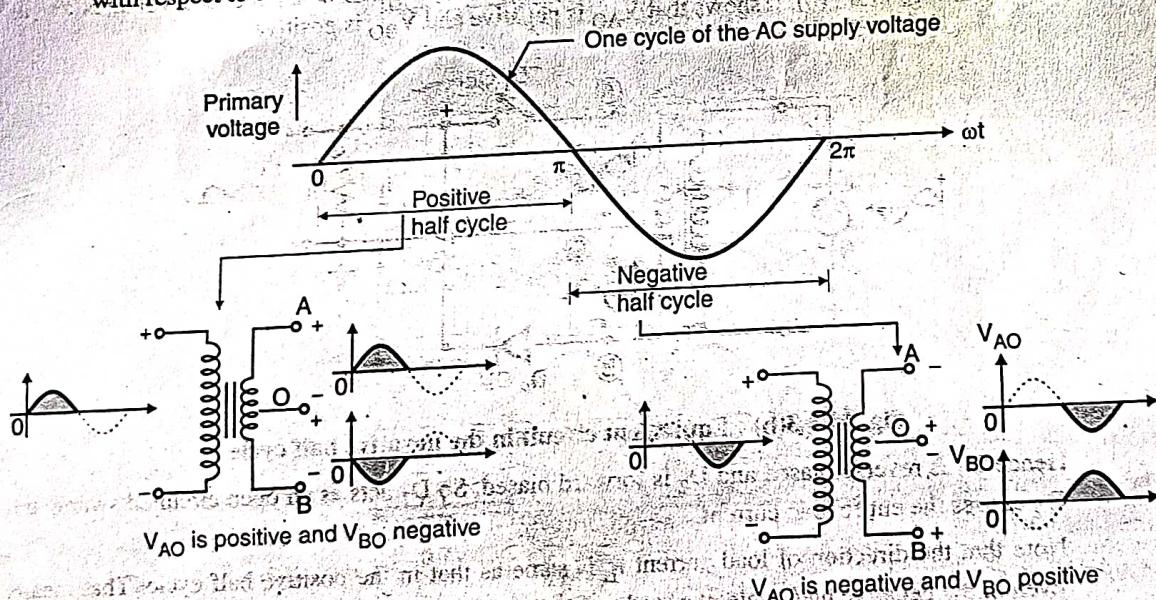

Fig. 11.4.2 : Secondary induced voltages for a center tapped transformer
- Before we analyze the full wave rectifier, let us refresh our concepts about the voltages induced on the secondary sides of a center tapped transformer. Refer Fig. 11.4.2 for the same.